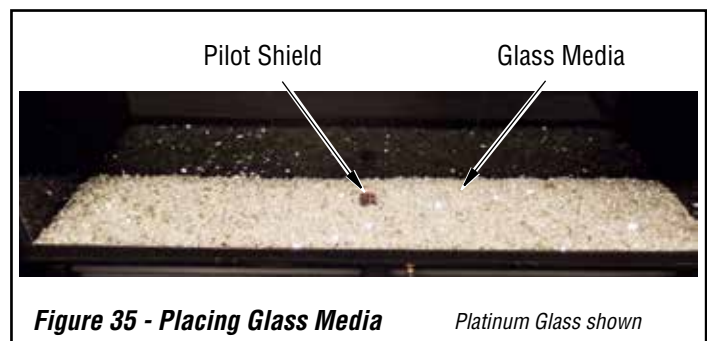

Figure 35 - Placing Glass Media
1. Place glass media in a layer evenly make sure only one layer of media on top of the burner and remaining media could be spread evenly across the remaining pan media. Ensure not to place media on top of the pilot shield, it is okay to place media around the shield (see Figure 35, Page 32).